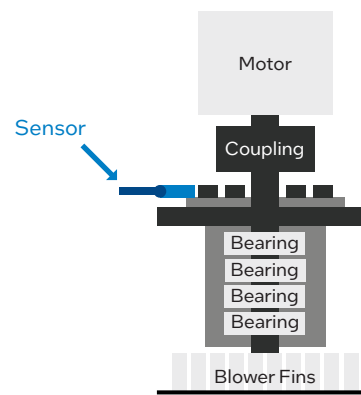
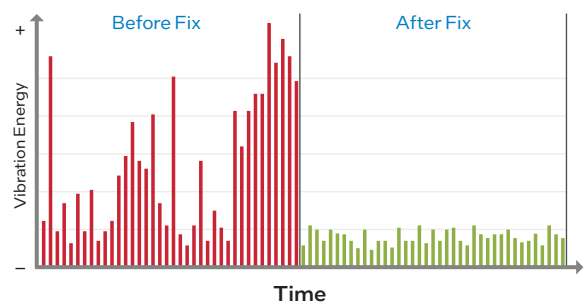

Figure 4. Placement of the blower vibration sensor.
Figure 5. IIoT dashboard shows excessive vibration from a blower (indicating it needs to be fixed) and the vibration signal after the blower has been fixed.
**Solution:** Like the deflux pump solution, we attach vibration sensors to the blowers to identify signals when the blower is about to fail. Figure 4 shows the best possible placement of the sensors to detect the vibrations of the epoxy blower. Figure 5 shows the IIoT dashboard, comparing the vibration readings from before and after the blower was fixed.